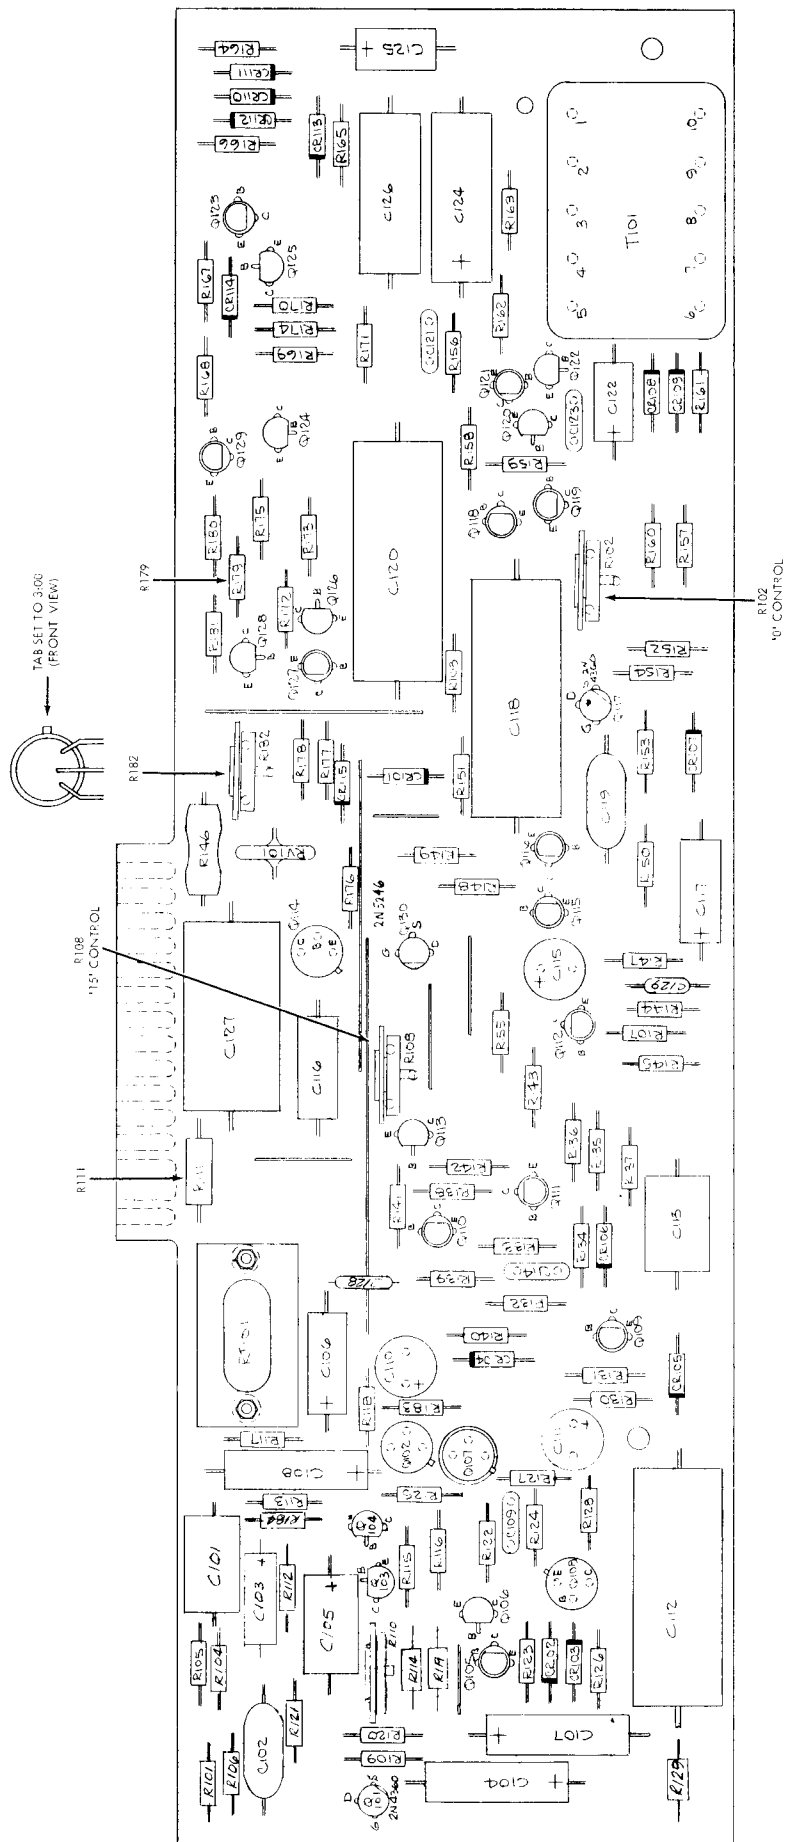

Figure 3. Electronic Part Locations, 1605A PCB Assembly
**Step 1. Modify Sampling Response Time (see Figure 3)**
**Step 2. Modify Range to Approximately 15 dB (see Figure 3)**
**Step 3. Recalibrate Meter Controls (see Figure 3)**